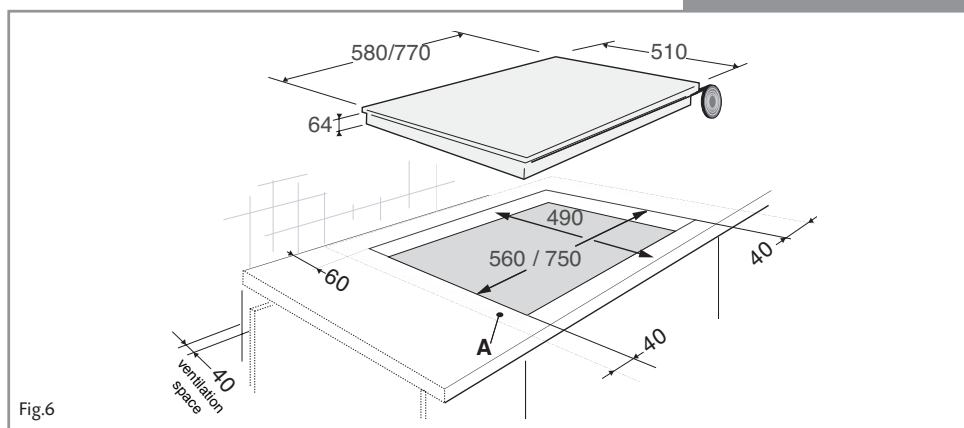

Fig.6
This appliance must be installed a minimum of 50mm from any back wall and a minimum of 180mm away from any adjacent vertical surfaces, e.g. a tall cupboard end panel. This may be reduced to 100mm if the adjacent surface is resistant to fire (tiles or steel, for example). These dimensions are shown in Fig.6.
1. Make the required hole in the worktop. Before doing this, you must check the instructions supplied with any cooker hood to ensure that you will have the required clearance. The cut-out (Fig.6) shows a 60mm gap from the wall to the cut-out edge. The distance from the hob, when fitted, to the back wall is 50mm.